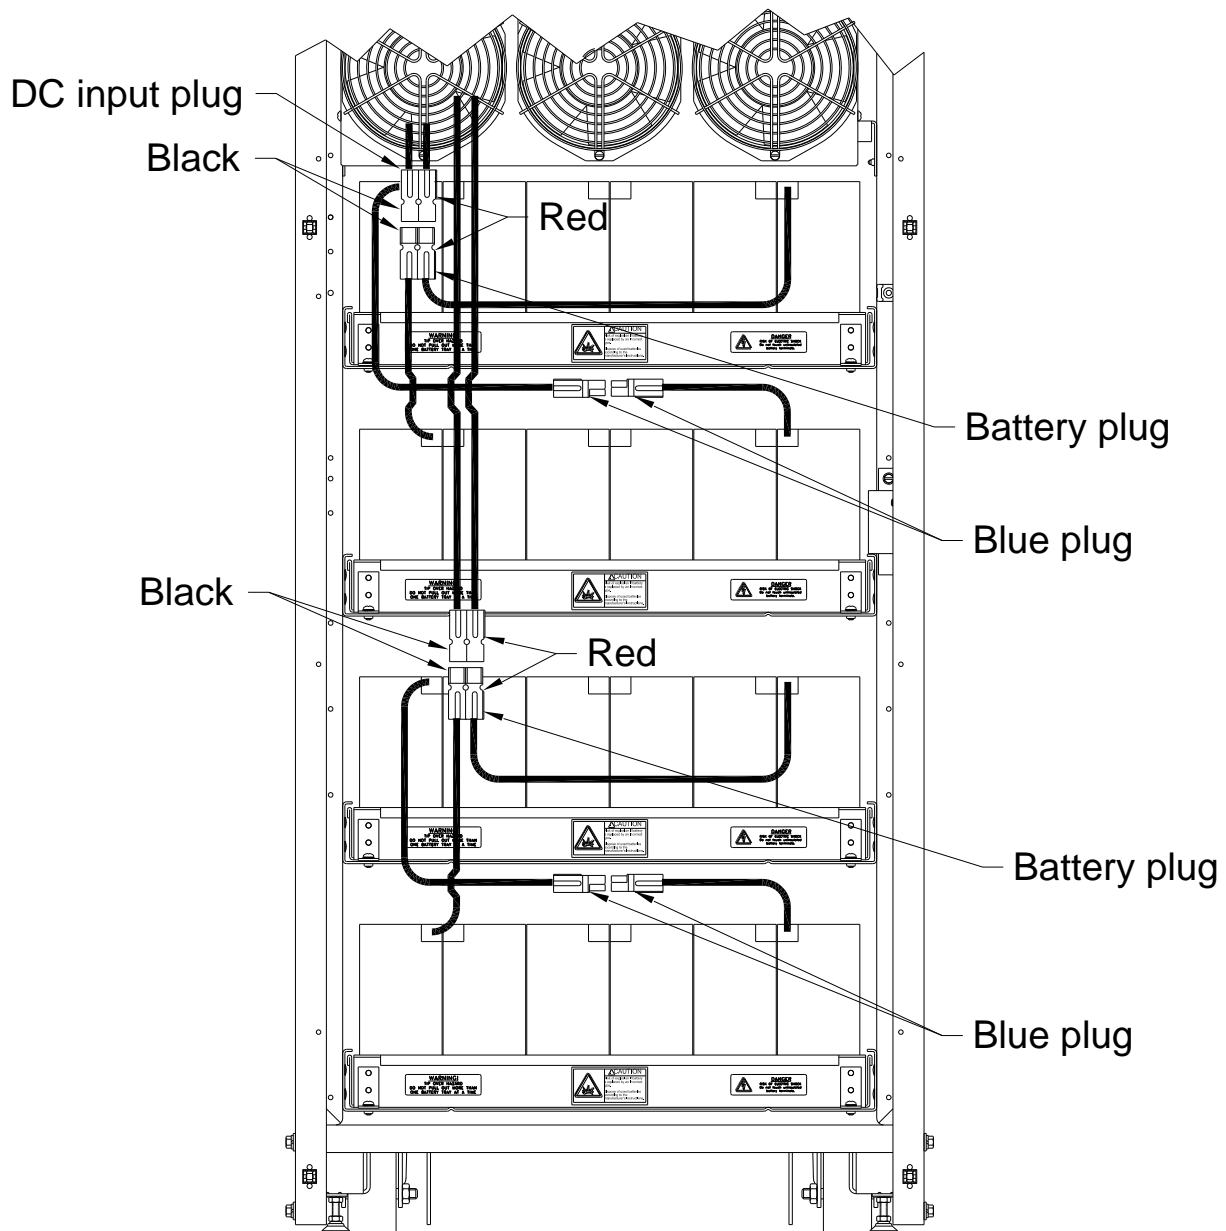

Figure 10-Internal Battery
4. Use a voltmeter to verify that the battery string is above 420 VDC at the battery plug shown in figure 10.
7. Reference figure 10. Connect the battery plug to the DC input plug.